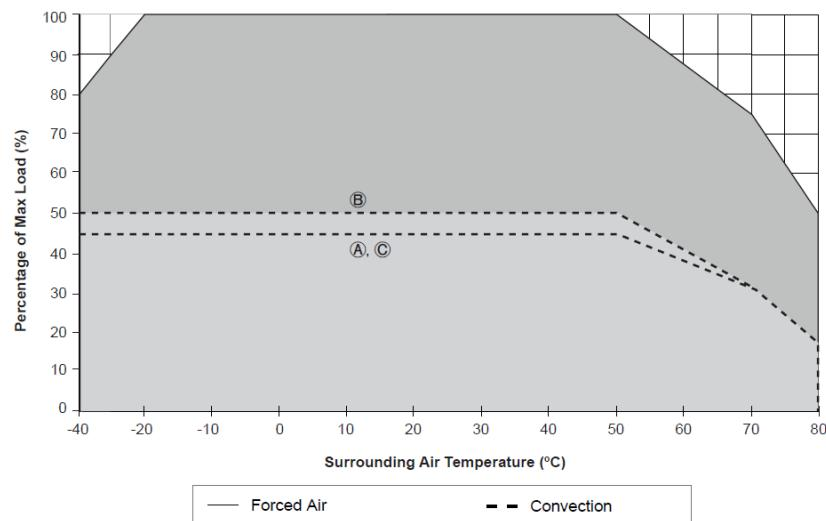

Fig. 1 De-rating for All Recommended Mounting Orientation
1. Power supply components may degrade, or be damaged, when the power supply is continuously used outside the shaded region, refer to the graph shown in Fig. 1.